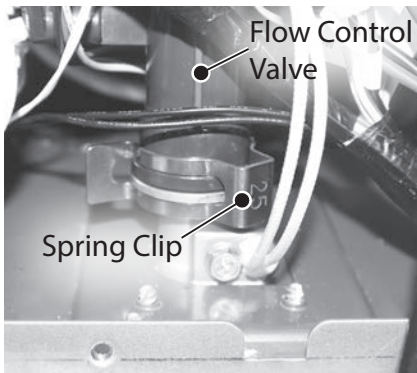

Figure 169 - Inlet assembly location
- 16** Locate the spring clip (size 25) securing inlet assembly to flow control valve. Remove spring clip and place aside in a safe place for reinstallation. See Figure 169.